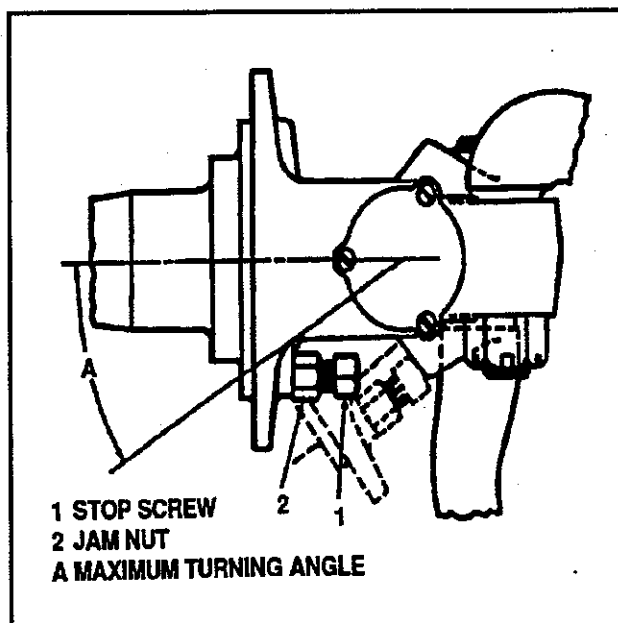

Figure 18—Steering Stop Adjustment
1. Adjust the power steering systems and stop screws so that the power is cut off before contact with the axle stop screw. (See Figure 18—Steering Stop Adjustment.)